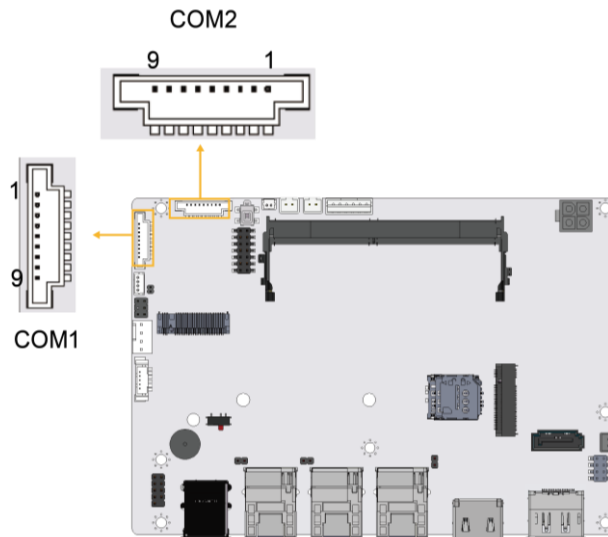

Figure 3-14: RS-232 Serial Port Connector Location
- CN Location:** See **Figure 3-14**